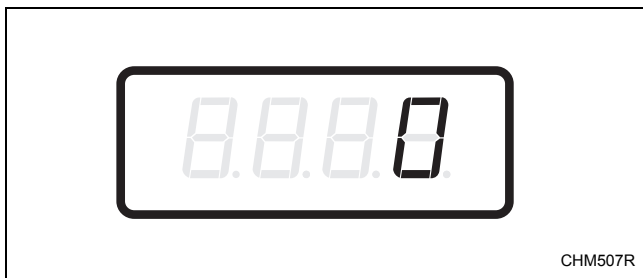

Figure 20
2. When “SA16” appears in the display, press the START (enter) keypad. There are five digits in the Special Vend A Vend Price #6. The fifth digit will appear in the display and will flash one second on and one second off. Refer to *Figure 20*.